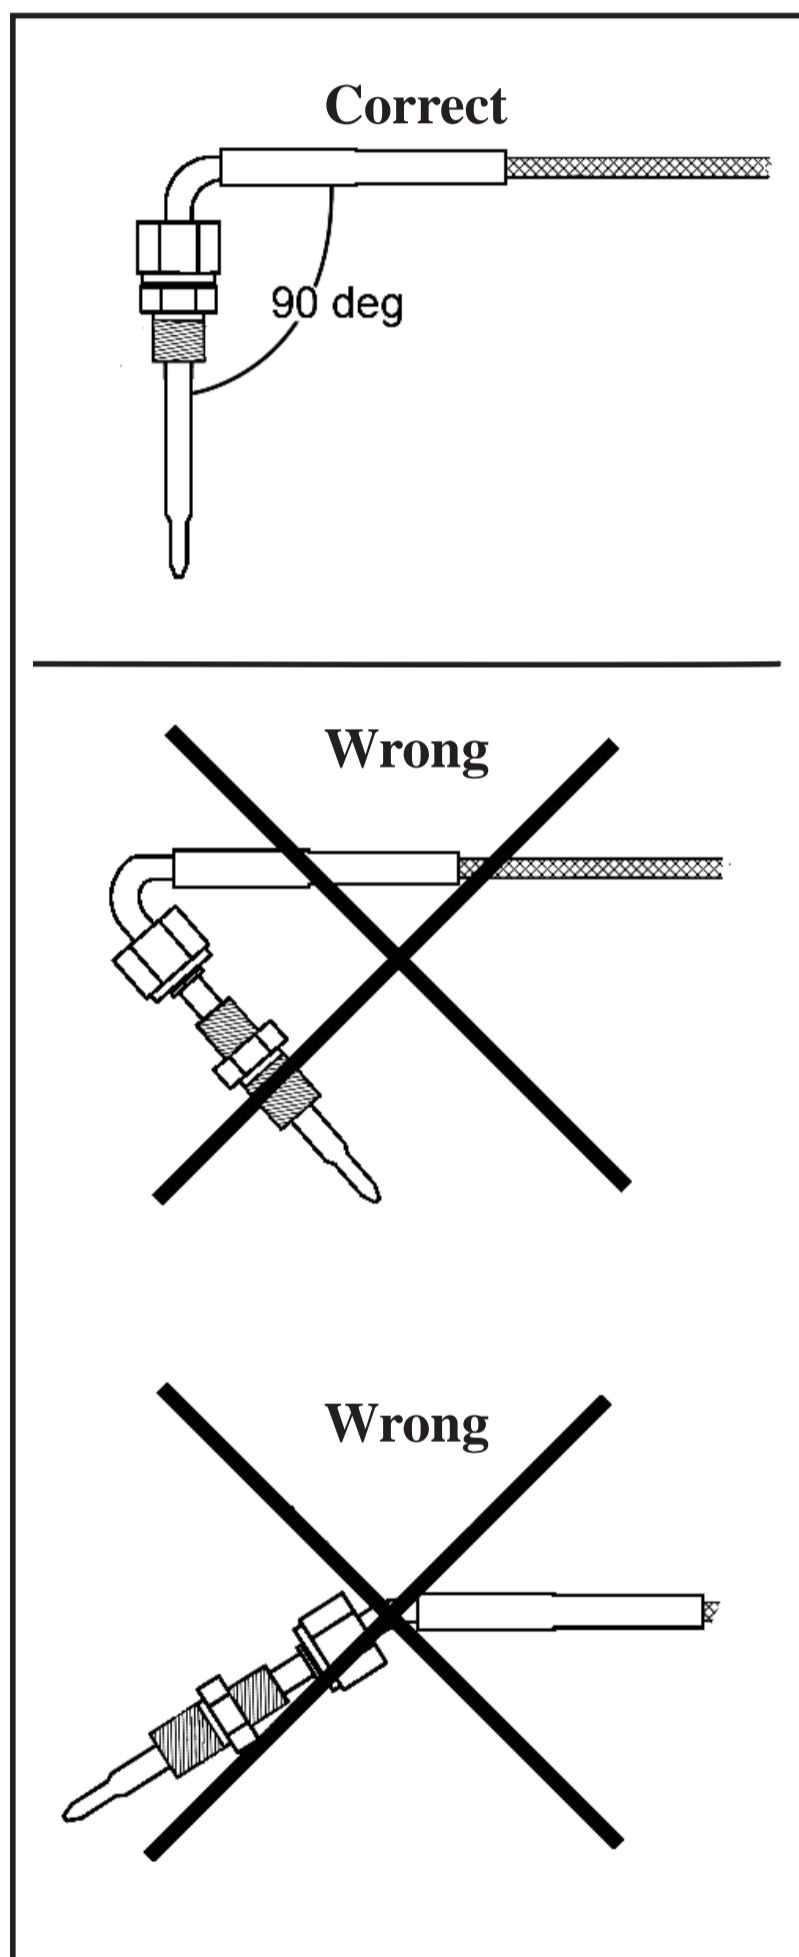

Figure 9- DO NOT BEND
**CAUTION:** Do not bend the probe after installed. If needed, loosen the probe nut, adjust the probe, and re-tighten. Bending the probe tubing will result in a faulty probe. (Figure 9)